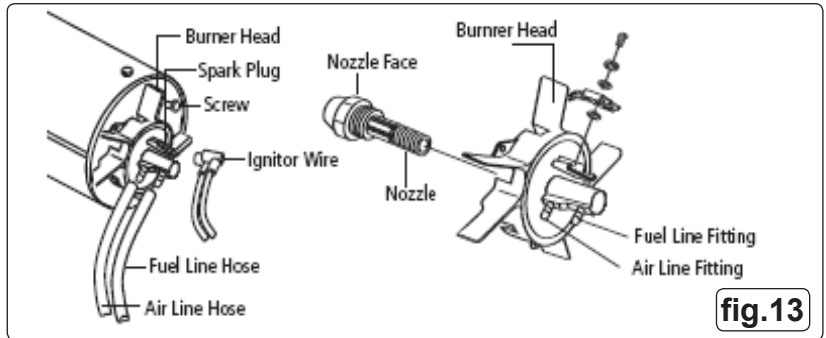

fig.13
6.6.2 Remove the burner head and remove the nozzle (fig.13).